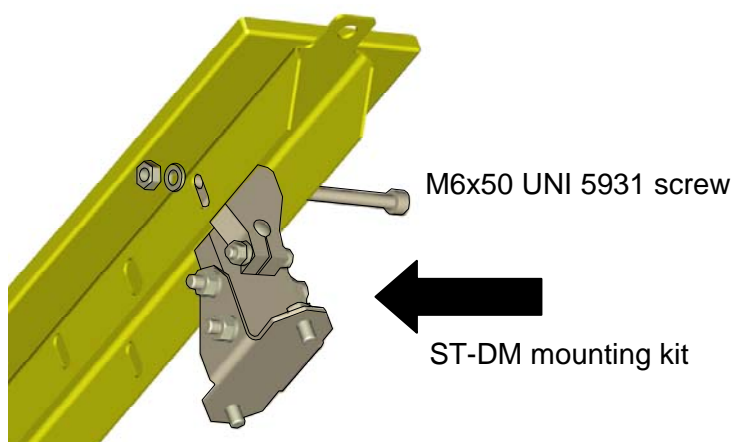

Figure 2
3. Install the deviating mirrors and emitting and receiving units on the floor stands respecting the warnings given previously. To mount the brackets on the mirror's carter insert the M6x50 UNI 5931 screw, coupling the bracket assembly to the carter's slot and tighten the screw (Figure 2).